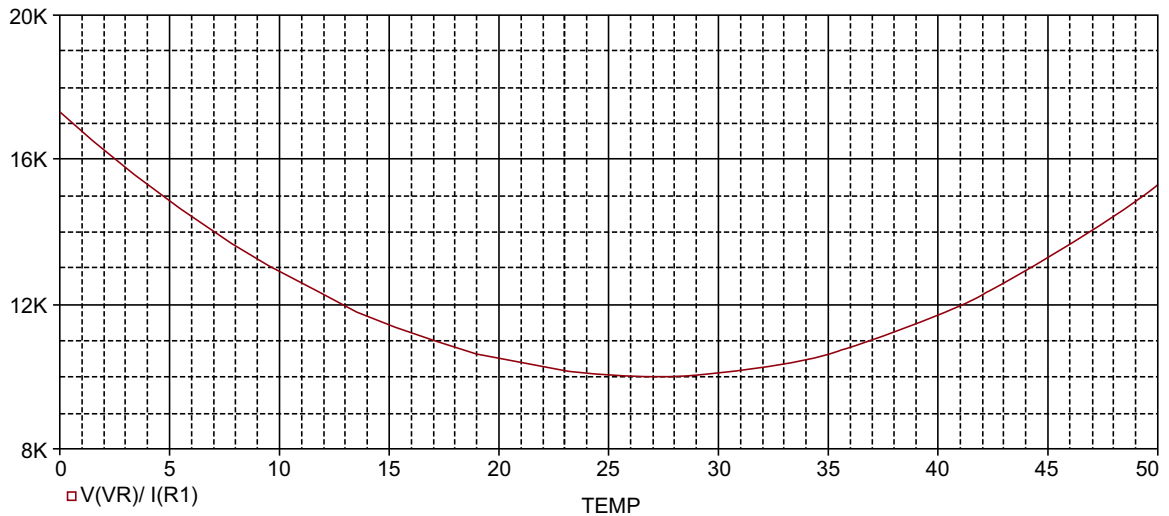

FIGURE 15.10
7. In Probe, select **Window > Display Control > Last Session > Restore**. You should see the quadratic response as shown in Figure 15.10.